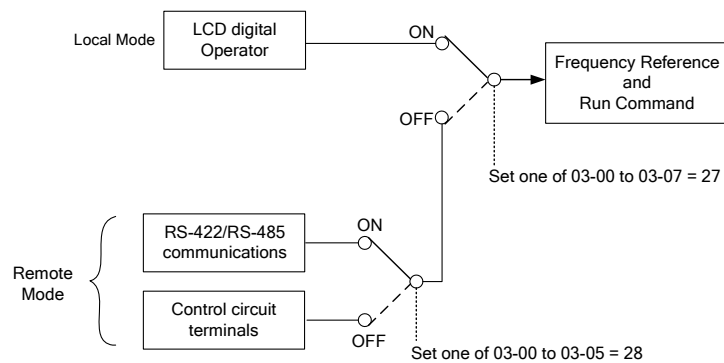

Figure 4.3.23 Remote mode operation selection
(30) Local/Romote selection (03-0X=28)
- When one of 03-02~03-05=28 (Remote mode selection) · inverter can switch between external terminal source (S1~S6) or communication (RS-485) source. Please refer the figure 4.3.23 ·